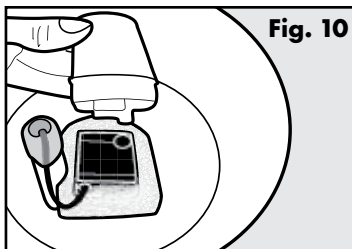

Fig. 10
4. Remove the Filter Housing from the Pump by lifting straight up (**Fig. 10**).